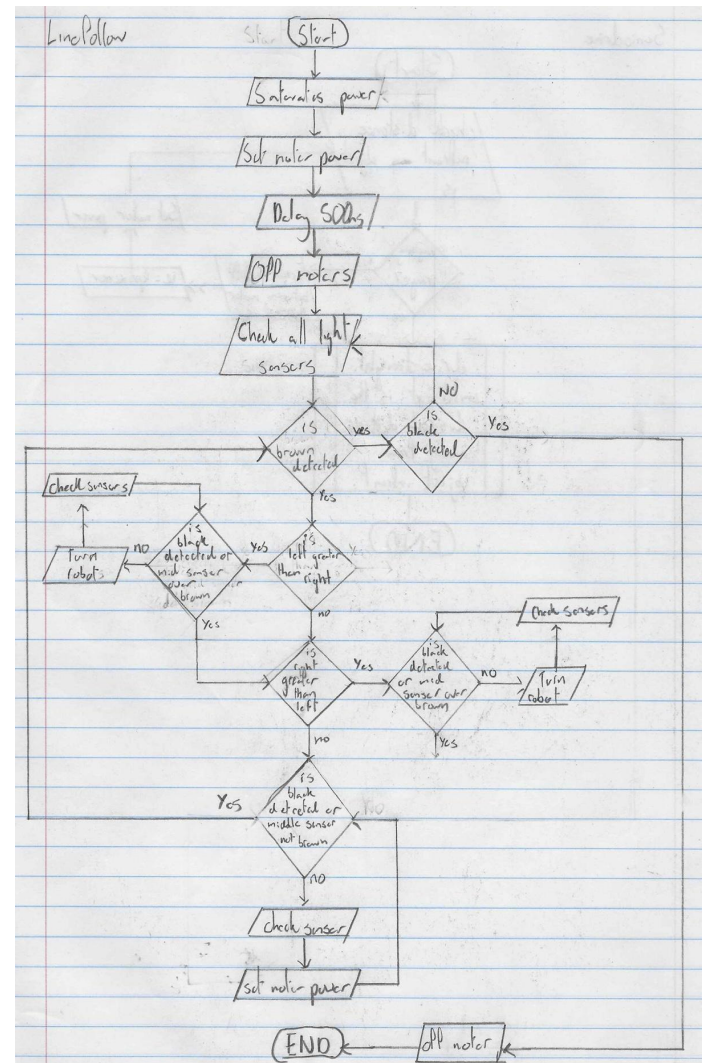

Figure 2 : *linefollow()*; flowchart
The function *armtodeg()*; takes the arm encoder count and then changes it to a degree of the current position. After using the compass app we were able to see that the maximum angle the arm could be raised was 47 degree for our robot 8. We knew the product of 21 and 240.88 accounted for 360 degrees of arm rotation, which allowed us to return to the current position. (See appendix A figure 2 for flowchart)
Using all the functions stated above it was necessary to arrange them in such a way we would be able to complete the task in hand for the dairy industry cooperative. First, wait for the user to click the start button. Ensures arm is at the highest position when starting in the charging zone. Set the current arm position to zero. Lower the arm to the height of the gap of the payload. Drives arms length away from the payload using sonar-based navigation. Then raises the arm with the payload on it to secure it. Drives backwards for 250mm, to ensure it doesn't hit any stock shelves and warehouse walls. Delay for 100ms and then turn counterclockwise 90 degrees. It will delay for 100ms and then drive straight for 370mm. Again it will delay for 100ms. turn clockwise 90 degrees, drive straight for 1300mm. And then turn clockwise 90 degrees to face the drop off zone. Then it proceeds to drive straight for 200mm. It will then lower the arm to drop the payload off in the yellow circular zone. Drive backwards for 100mm. Turn counterclockwise 180 degrees. Drives straight for 350mm. Follow the brown line till it reaches the black line and finally will drive straight till the finish zone. (See appendix B figure 2 for zoomed flowchart)
Appendix A Figure 2. *armtodeg()*; function flowchart : takes the arm encoder count and then changes it to a degree of the current position.
Appendix B Figure 2. Full solution flowchart : allows the robot to use all the different functions to get from the chagrin zone, pick up the package, drop the package whilst not hitting any shelves and then return back to the charging zone (zoomed version).
- Figure 2 : linefollow(); flowchart